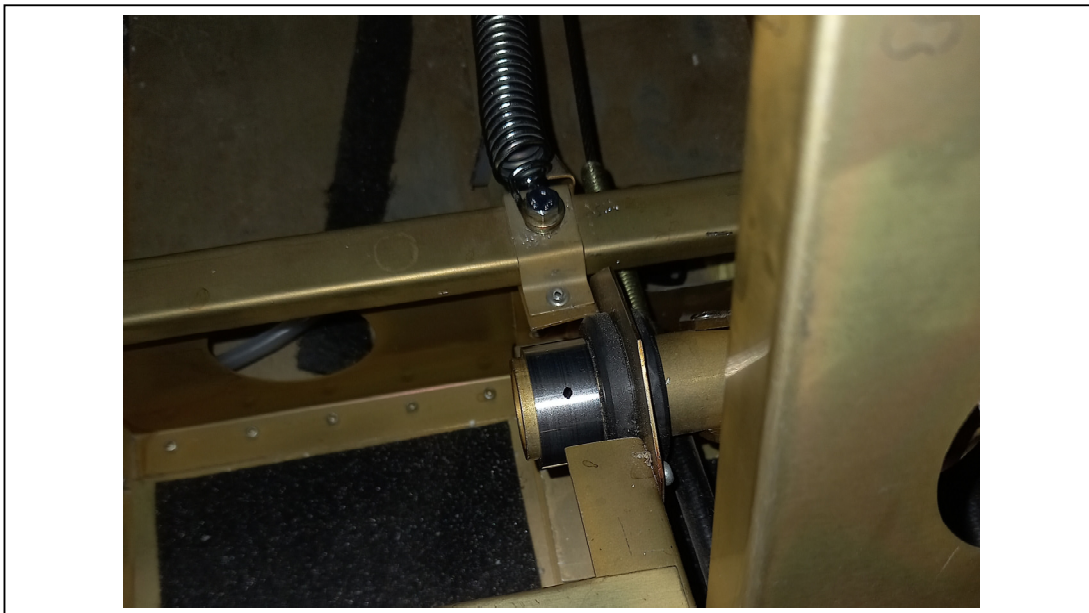

Figure 5: Bush placement
- Step 8. Place the stopper (CT-BSH-008-X-A-1) over the ends of the tube, as seen in Figure 5. This will need to be done for both sides of the tube.